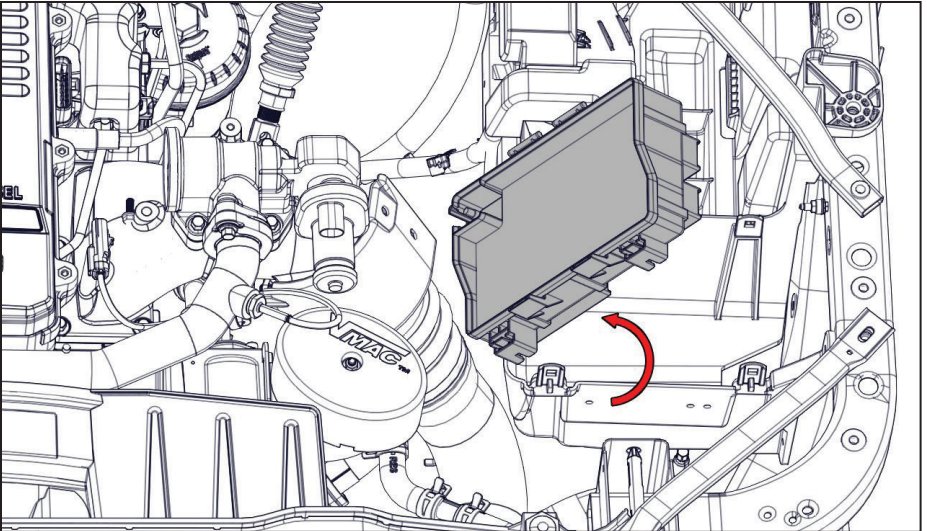

Figure 38 — Remove PDC
- Remove the PDC housing from the bracket by simultaneously squeezing the (x4) latches and pulling the PDC housing up out of the bracket (Figure 38).